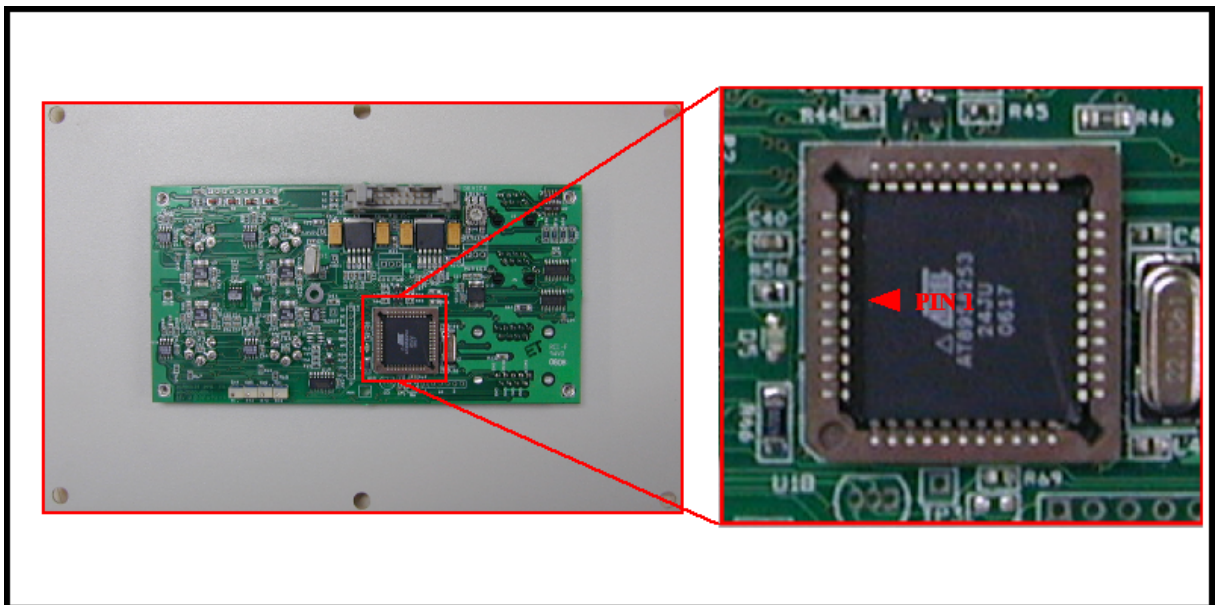
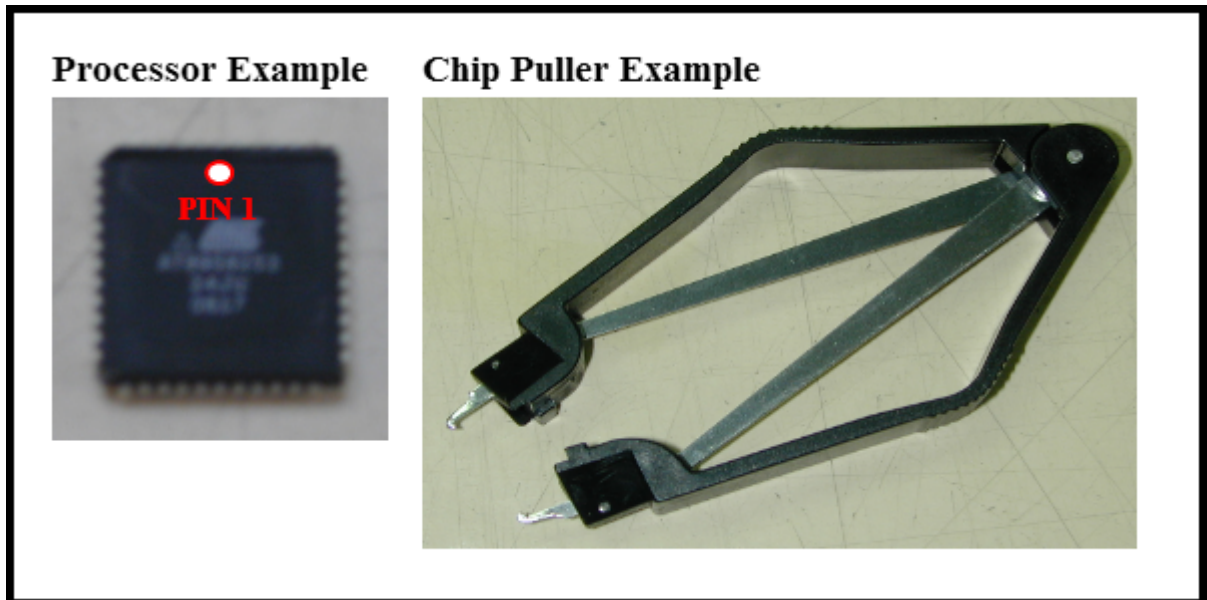

Figure 2: Finding the processor. (HM-3000 back panel shown above)
Figure 3: Example of processor and puller.
Step 5: Find the square socket and using the chip puller provided by humboldt, pull the processor from its socket. You will see in the socket on the board that there are two rectangular slots, the puller teeth will be inserted into these rectangular slots (Figure 2). Push the puller in, squeeze the tool while pulling out, and the processor should come out.
Step 6: Pin 1 of the new processor will be circular indentation on the beveled edge of the processor. (Figure 3).
Step 7: If you look at the socket you pulled the processor from, you will see a small triangle in the socket. This triangle represents pin 1 of the socket. Install the new processor so the circle mentioned in step 6 aligns with the triangle (Figure 2 and Figure 3). If you can't find the triangle symbol in the socket, install the new processor with the angled corner of the processor aligned with angle corner of the socket.